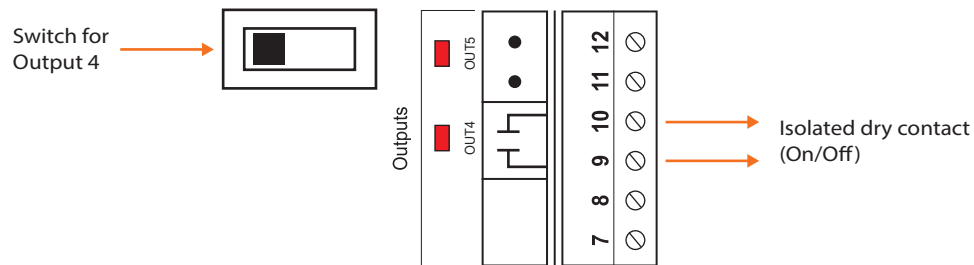

Figure 11 - Output in SINK mode
2) Switch position to obtain a SINK **passive output** (see Figure 11):